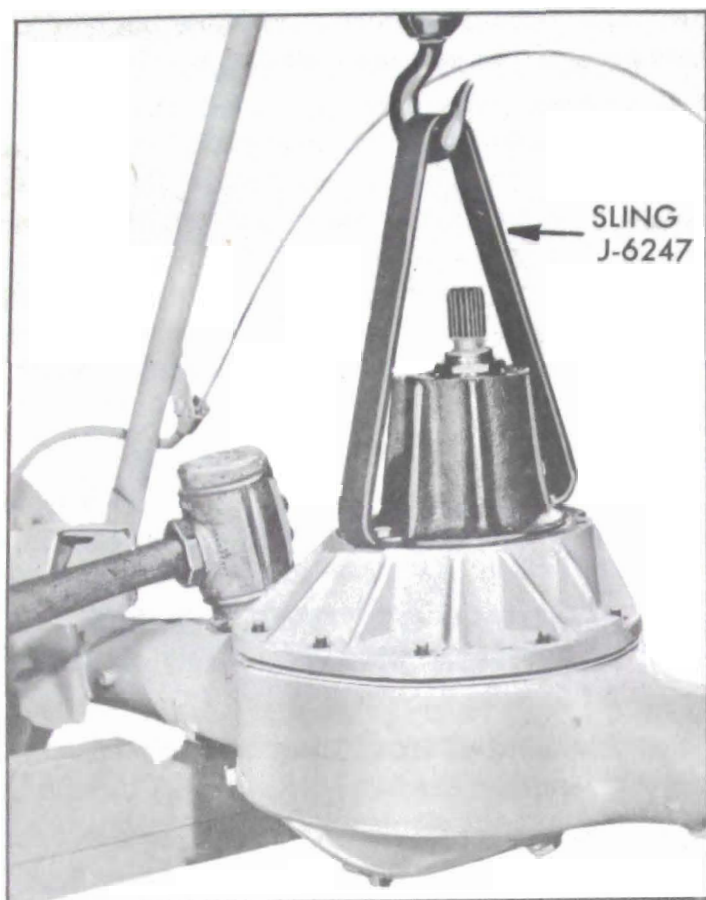

Figure 6-10—Removing Carrier Assembly from Rear Axle Housing
6. Remove carrier to axle housing nuts and lift carrier from housing using Sling J-6247 and a chain hoist, if available. See Figure 6-10.
2. Install carrier assembly in axle housing using Sling J-6247 as shown in figure 6-10. Install nuts and tighten them evenly and alternately to 50-60 ft. lbs.